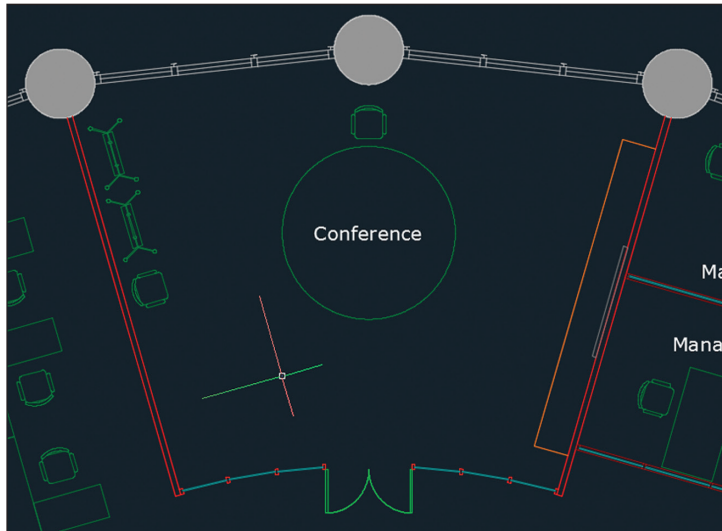

FIGURE 4.13 Reorienting the UCS to an object
10. Pan over to the Conference room. Type `UCS` and press `Enter`. Select the `Object` option by clicking `Object` on the command prompt. Select the inner-left wall line and watch as the crosshair cursor changes to parallel the angle of the wall (see Figure 4.13).